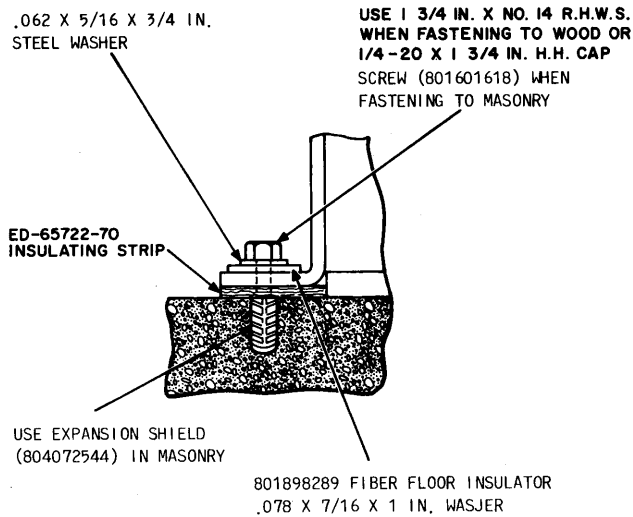
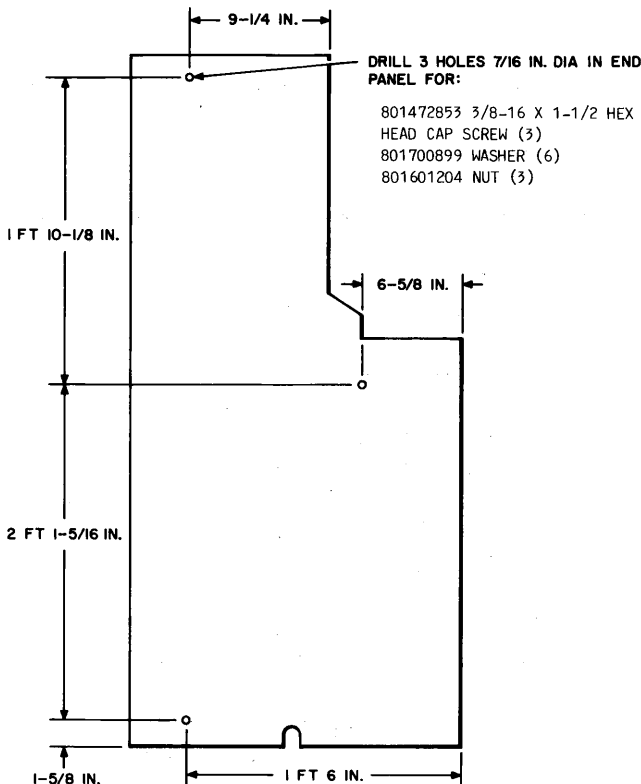
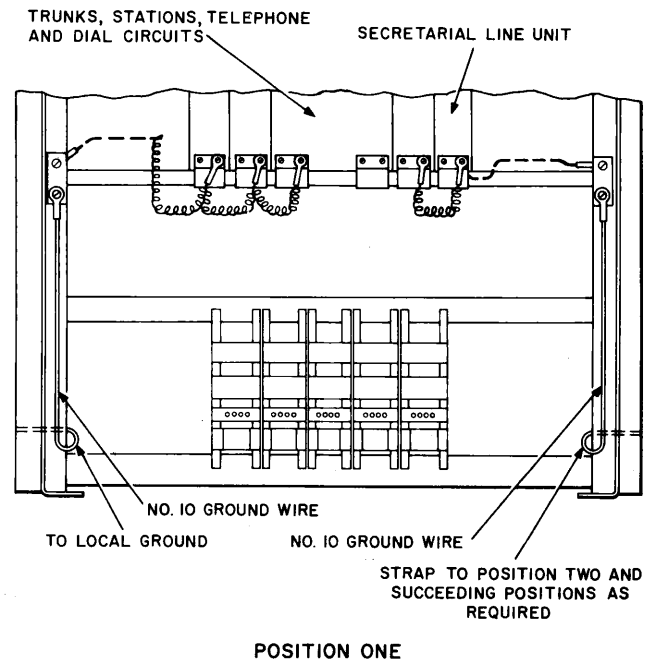
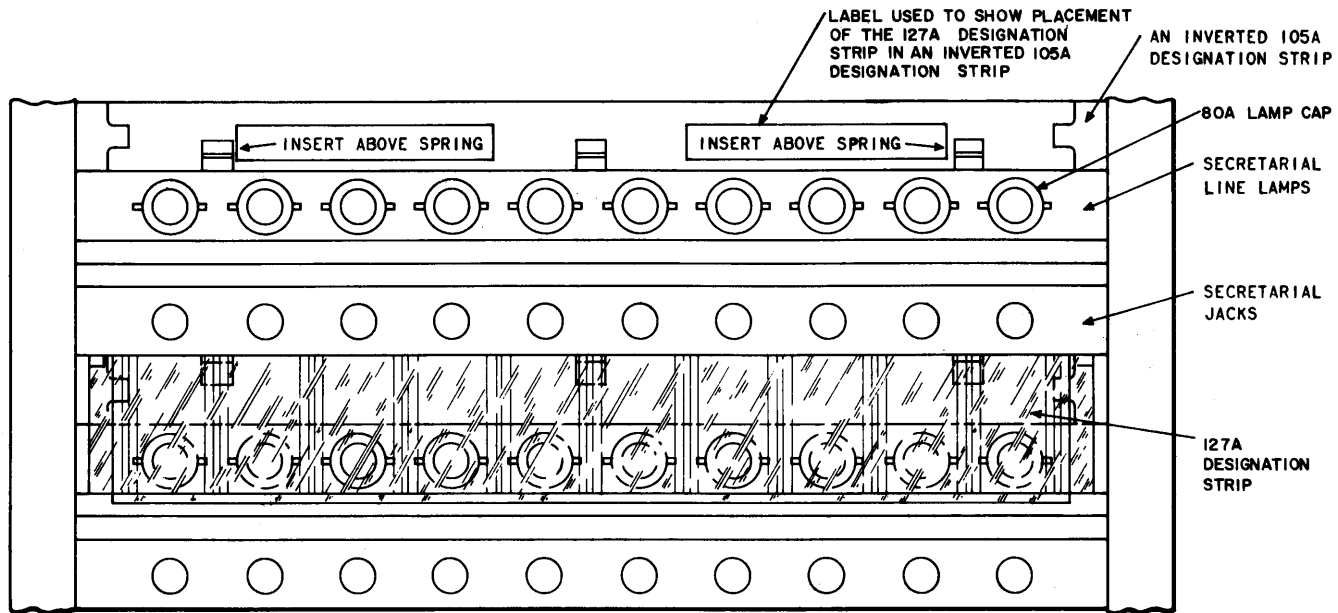

Fig. 9—Fastening the PBX to the Floor
Fig. 10—Separation Panel Modification Detail
Fig. 11—Local Ground Connections to PBX
Fig. 12—Installation of the 127A Designation Strip
**3.06** The PBX should be fastened to the floor, as shown in Fig. 9, and should stand approxi-
- Modify one side panel, as shown in Fig. 10, and use it to separate the adjacent positions.
- Before aligning the positions, remove the casting mounting clips from the side of the position which is to be butted against the finished side of the modified panel being used as the separator. Align the positions and bolt them together, using the hardware shown in Fig. 10, or equivalent.
- Connect local ground wire as shown in Fig. 11.
inition of the lamp spot. The caps must be inserted in the cavity around the bulbs after the bulbs are placed in the panel. The caps must be removed by a lamp extracting tool (319B) before the bulbs can be changed. The new 127A designation strip is placed into the switchboard panel after the line lamps and lamp caps are installed. The fingers on the clear 127A designation strip are inserted under the springs on the 105A designation strip (Fig. 12). In some cases, the 105A designation strip may be installed in an inverted position and the fingers must then be placed above the springs (Fig. 12). It is suggested that a label be placed on the 105A designation strip to indicate an inverted position and the insertion of the strip above the springs. Unmarked labels for use with the 127A designation strip are available in white, canary, blue, pink, and green. Each 8-1/2 by 11 inch sheet is perforated to provide 99 squares. Order as E-6265 Designation Strip Labels and specify color.
**3.10** The 557B PBX is initially equipped with 40 secretarial lines. Additional secretarial lines (maximum 60 lines — 6 line units and 6 jack and lamp assemblies) shall be installed locally. The 159U jack spacer must be removed from the switchboard panel and disposed of locally. The secretarial line units and jack assemblies are mounted in the positions as indicated in Fig. 2. The units and jack and lamp assemblies are equipped for a plug-in basis and should be cabled according to Fig. 2. The black ground lead on the secretarial line unit should be run to the binding post on the adjacent plate. Leave 10 inches slack (Fig. 11). The black auxiliary signaling lead (A1 or A2) shall be connected to terminals A1 or A2 of the cinch terminal block on the respective side of the switchboard (Fig. 2 and 13).
**3.11** When locked-in line signals with secrecy are required on secretarial lines, the mounting details and line units per ED-65866-01 should be ordered and installed locally. Mount detail 1 on the right upright of the switchboard under the writing shelf, using the four mounting holes; drill and tap the upright as required. Similarly, mount detail 2 on the left upright. Install the unit for the designated lines in the relative location indicated in Fig. 3, ED-65866-01. Terminate the free end of the local form cable (Fig. 4, ED-65866-01) on the secretarial line unit per Fig. 12, SD-65729-01; rewire Fig. 10 to agree with Fig. 12, SD-65729-01 and mount the connector on detail 1 per Fig. 3 of ED-65866-01. Insert the plug of the unit into the connector for the assigned lines. Install a ground lead per SD-65729-01, Fig. 9. Secretarial lines with locked-in signals without secrecy may be provided by rewiring the nonlocked-in line units per SD-65729-01, Fig. 11 on a local job basis (electromechanical units only).
**4.05** Provide a local ground connection to the PBX framework by running a No. 10 ground wire to a suitable grounding medium, as covered by local job instructions. The local ground wire is normally connected to the initial (first) position. When multiple positions are installed, the positions are strapped together by a No. 10 ground wire, as shown in Fig. 11.
**4.12** The secretarial line unit is wired with S, V, and X wiring and apparatus. Check type of ringing current provided by the central office for each secretarial line to be connected, and make wiring changes as shown in Table D and per Fig. 10, SD-65729-01. If the X wiring and apparatus is not required, it should be removed from the circuit.